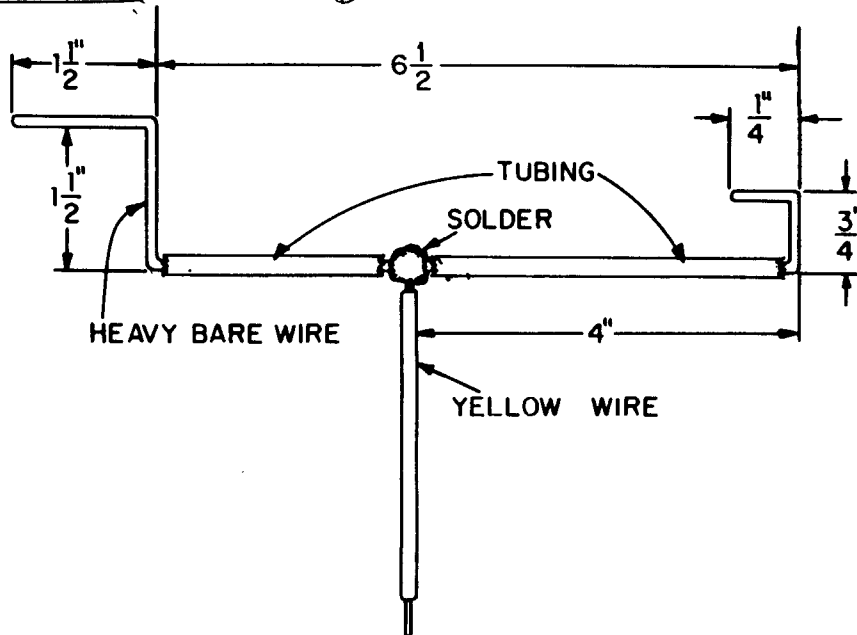

FIGURE 24. BUSBAR ASSEMBLY
- ✓ ☒ Cut an 11" piece of the large bare wire and two pieces of the large tubing; one 2" and one 4". Slide the two pieces over the large bare wire. Form the wire as shown in Figure 24. Solder a yellow wire to the bare wire as shown.